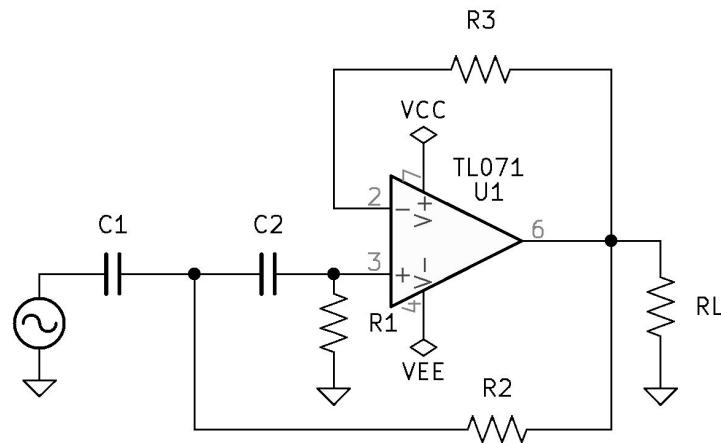

Figure 8.7: High-Pass Second-Order Active Filtering Circuit.
1. See Figure 8.7 *High-Pass Second-Order Active Filtering Circuit* on page 88.